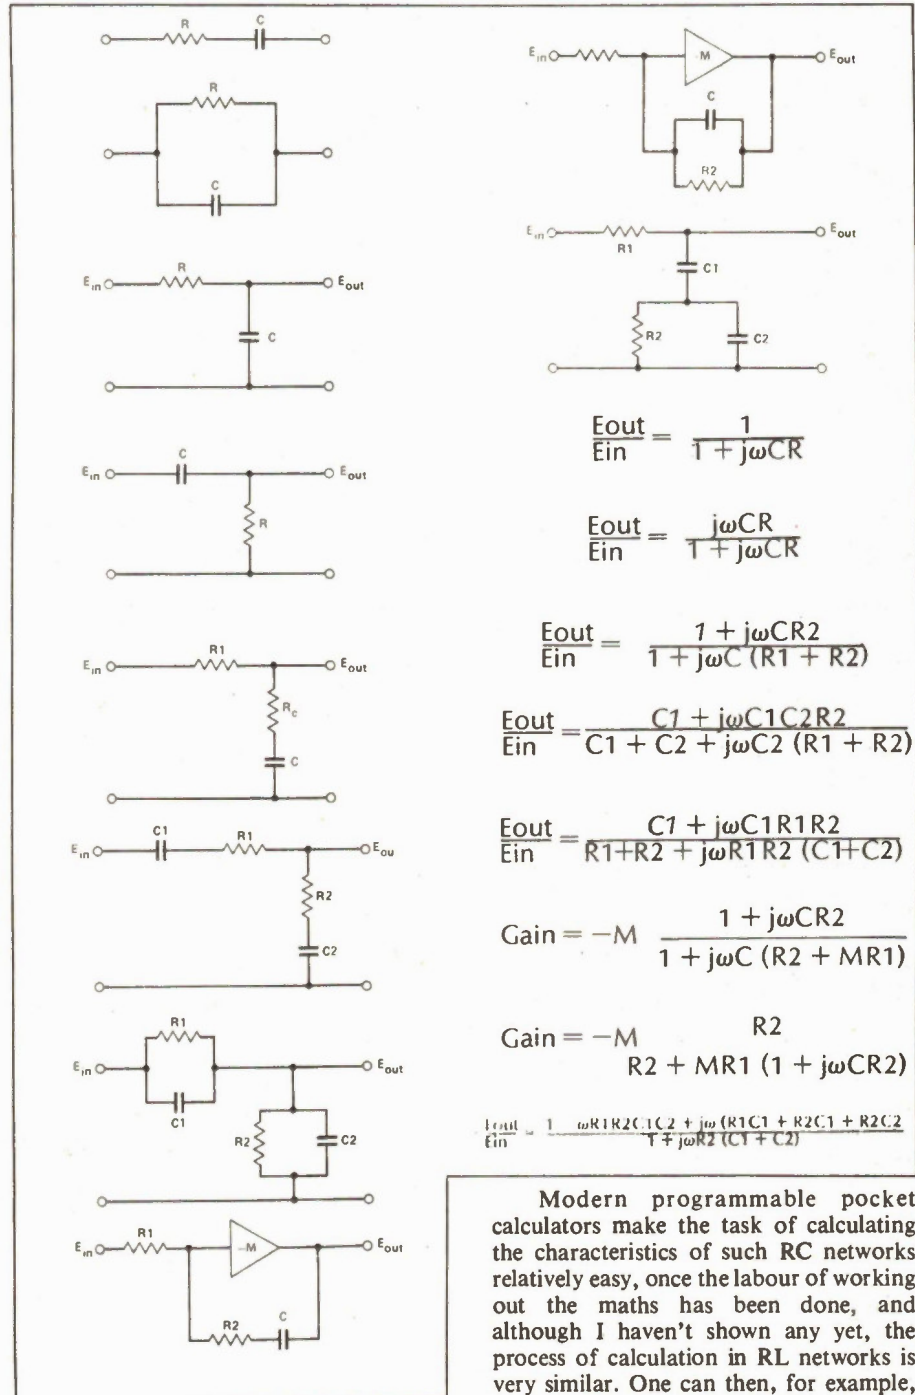
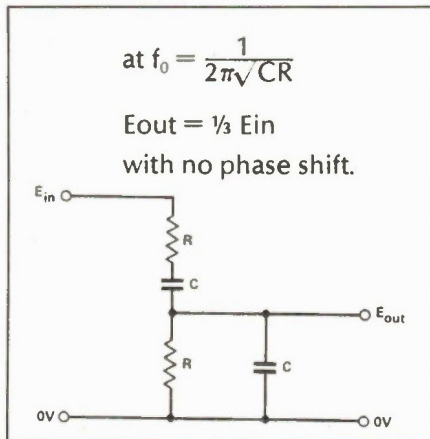

Fig. 5 Characteristics of some common RC networks.
Fig. 8 The Wien network.
To remove some of the labour in calculation I am showing in the composite Fig. 5 a selection of RC networks with their impedance and transmission equations.
In all the equations shown, it is possible (as I am sure you will have spotted) to change one kind of network into a simpler one by putting value of R or C or L equal to 0. As an example, if we make network (7) of Fig 5 have values of 0 for C1 and C2,
(2) The Wien network.
This interesting and useful circuit, shown in Fig. 8, and the basis for a lot of oscillator designs is basically a network of the type shown in Fig. 5 (1) in series with one of the 5(2) type, with both Cs and both Rs being of the same value. Since we have already worked out the impedance characteristics of 5(1) and 5(2), we can write down the output, as a proportion of the input using the familiar $a/(a+b)$ form, where 5(2) is a,